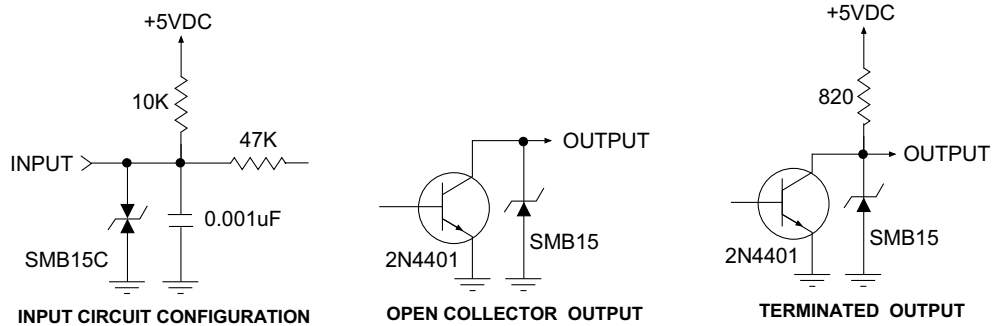

Figure 11. Reader Internal Circuit Input and Output Configurations.
- The internal circuit configurations for the reader inputs and outputs are as shown in Figure 11.